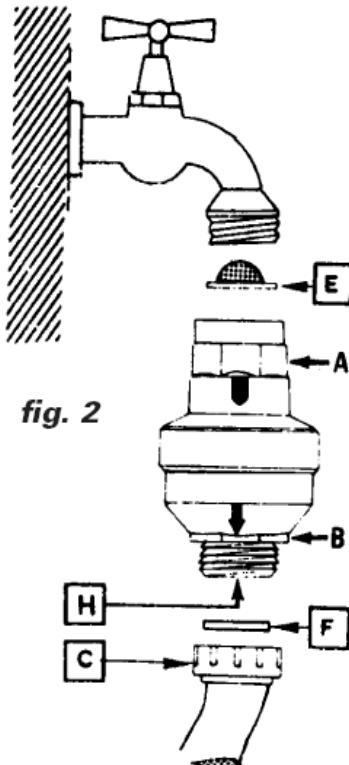

fig. 2
Indispensable device for washing machines, dishwashers and demineralizers as, under the conditions defined in the technical features herewith described, it prevents a flow of water greater than the one for which it has been set by the adjustment pointer. This avoids continuous leaking. The Water Block also has a particular non-return valve (antipollution). The device should be installed vertically (see fig. 2) and following the instructions carefully.
WATER BLOCK should be installed between the tap and the supply hose of the demineralizer (fig. 2). Using the enclosed plastic key, turn pointer 'P' (fig. 1) anticlockwise to the required setting (example, position 1,5).
1. Manually screw the WB to the tap having suitable thread (3/4" gas), inserting the filter 'E' with its convex side facing upwards (fig. 2). The WB will not operate properly if the filter is not installed correctly. If the WB is tightened or loosened with the aid of a wrench, the same must be applied to the appropriately octagonally shaped part of the housing 'A'.